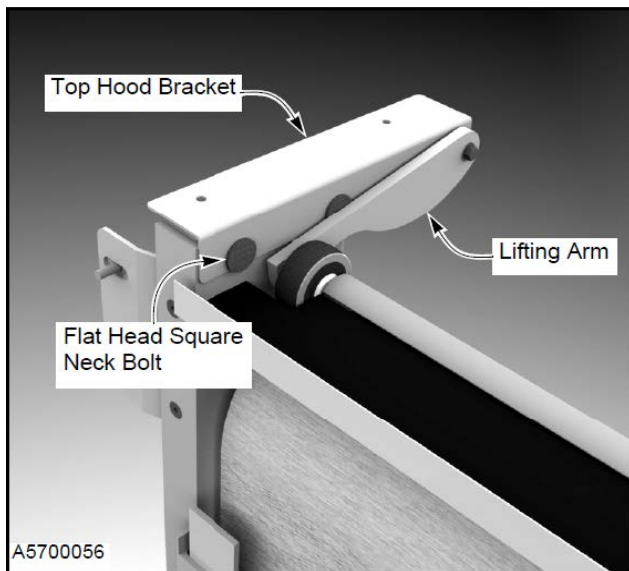

Figure 25
1. Install top hood bracket with two  $\frac{3}{8}$ -16 x 1.25 flat head square neck bolts,  $\frac{3}{8}$ -in. flat washers and  $\frac{3}{8}$ -in. hex serrated flange lock nuts. (See Figure 25)